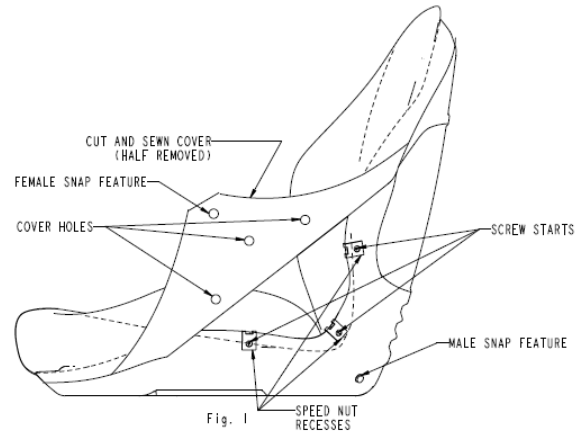

Figure 1
1. Remove female snap feature from the male snap feature as shown in Fig. 1. and pull back cut and sewn cover to expose the edge of the seat shell.
2. Fit three speed nuts into recessed areas as shown in Fig. 1. The outside surface of the shell has screw starts molded in. These screw starts are to line up with the hole center of the speed nut. The flat surface of the speed nut will be on the outside of the shell, and the threaded surface of the speed nut will be between the cushion and the shell.